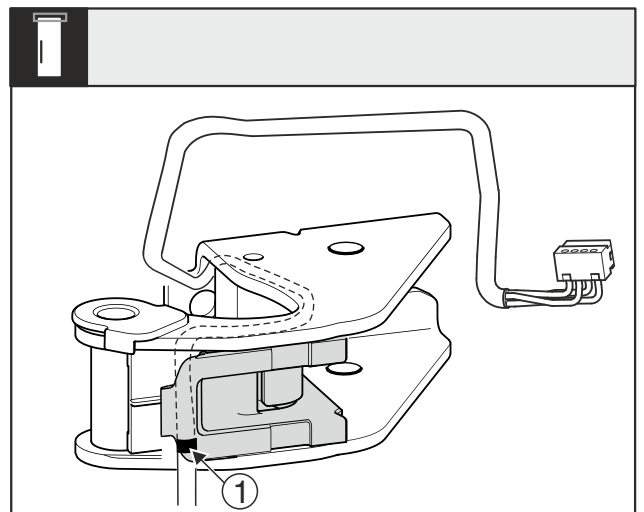

Fig. 17
- Place the middle marking Fig. 17 (1) on the edge of the cable holder.